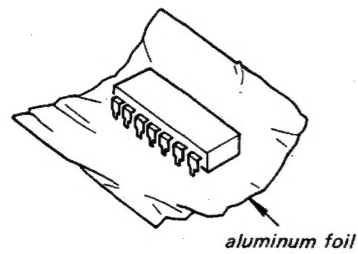

Fig. 1
1. Maintain all the pins at the same potential by wrapping the IC in aluminum foil or other similar material. (See Fig. 1)